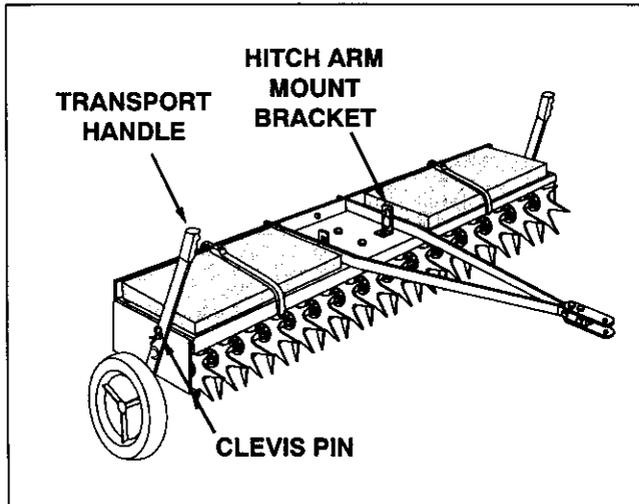

FIGURE 5
- To increase spike point depth penetration, add weight to the upper frame as required. The frame holds three concrete blocks or patio blocks at approximately 35 lbs. each. Secure the weights with straps or wire, using the holes in the shield flange. See figure 5 on this page.